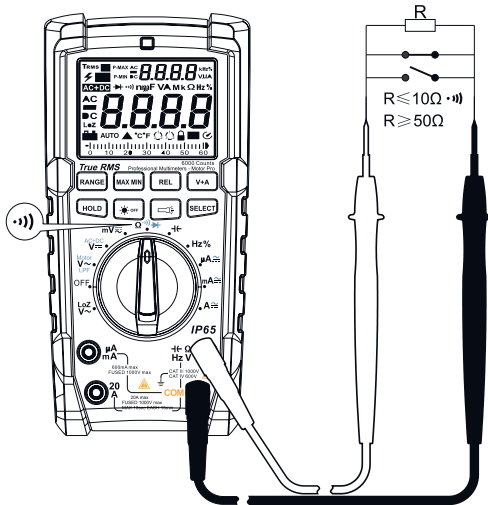

Figure 3a
6. Resistance and Circuit Continuity Measurement (See Figure 3a+3b).